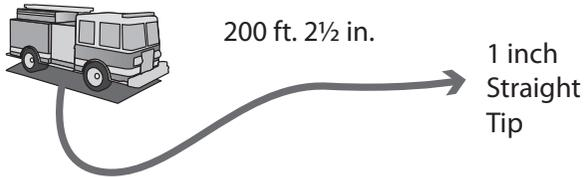

Fig. 2–12. Determine the engine pressure using the given dimensions.
21. Determine the following engine pressure (fig. 2–12). Use the Underwriters formula.